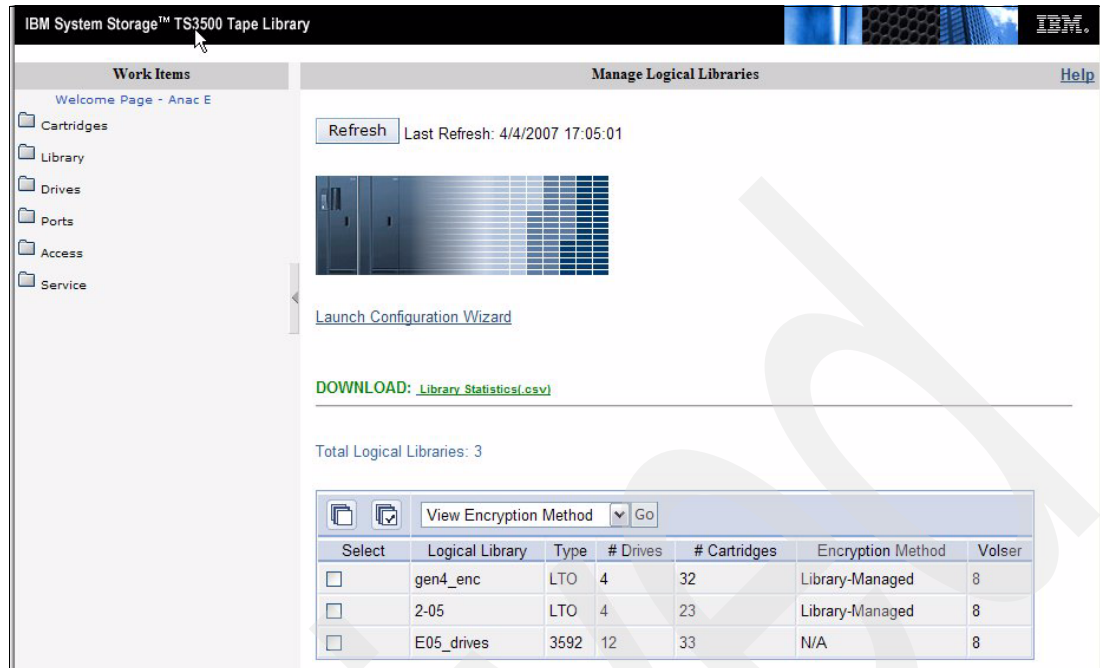

Figure 2-31 IBM TS3500 Tape Library Specialist Logical Libraries entry panel
2. Click **Manage Logical Library** on the main pane, or select **Library** and **Logical Libraries** on the left side. The Manage Logical Libraries window displays; see Figure 2-31.
After setting a new configuration, the new logical libraries are simply named using numbers. You can change this to more meaningful names: From the Manage Logical Libraries screen (Figure 2-31 on page 64), select the library to be renamed and click **rename**. On the next screen (Figure 2-39) enter a new name. The logical library name is only used by the Library Specialist, and has no affect on the communication with your backup application.